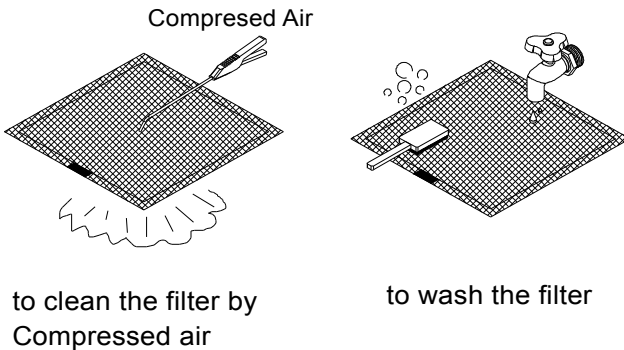
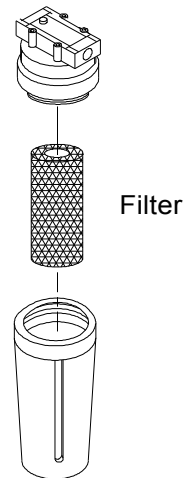

Figure 17
Figure 18
- (1) If it is necessary to open the cooler guard for interior maintenance, please be sure to switch off the main power first, and avoid touching the fan and heat source to prevent any injury.
- (2) Please use neutral detergent or soap to clean the surface of the cooler. Do not use acid solvent to prevent corrosion on the case. Be careful not to make water spray to electronic parts to cause any damage.
- (3) Clean the filter net periodically. Spray off the dust with high-pressure air weekly. If the greasy dirt can't be removed by air, then use water and neutral detergent to wash it. (See Figure 17)
- (4) Use spraying air to clean the fins on the condenser. Make the high-pressure air through the fin by orthogonal direction.
- (5) The humidity might condense become water at the bottom of the reservoir, periodically vent the water and refill the coolant if necessary.
- (6) If there is any filter installed at the inlet or outlet, please clean and replace the filter periodically. (See Figure 18)